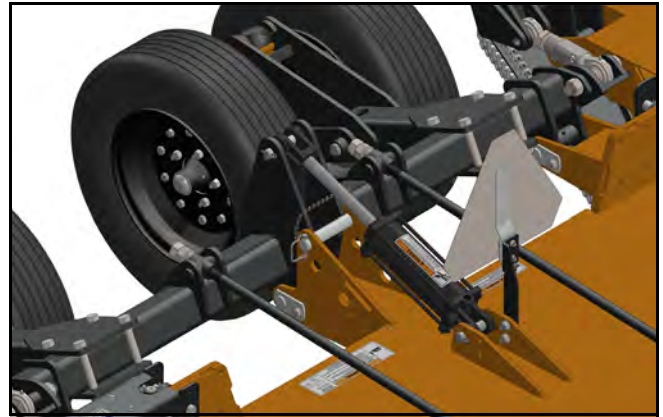

Figure 4. Transport Lock Pin In Transport Position
3. Place lock pin and klik pin in lock position and lower cutter against lock pin. See Figure 4.